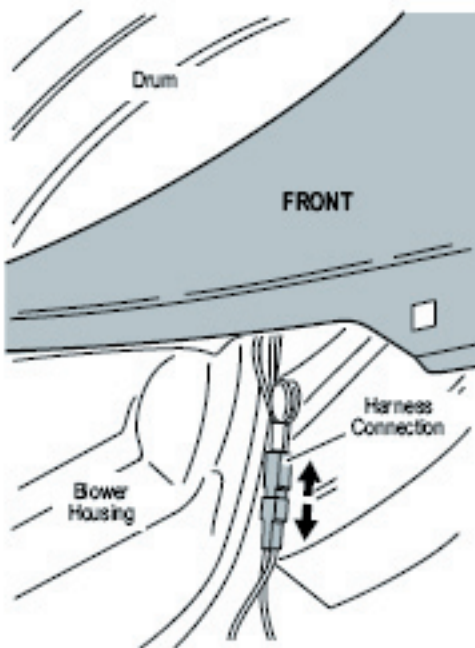

Figure 12. Disconnect sensor from wire harness.
- Access the moisture sensor wires by removing the toe panel. See Removing the Toe Panel. Disconnect the sensor wires from the harness. See Figure 12. Go to step 9.
6. Access the moisture sensor by removing the toe panel. See Removing the Toe Panel. Disconnect the sensor from the wire harness. See Figure 12.